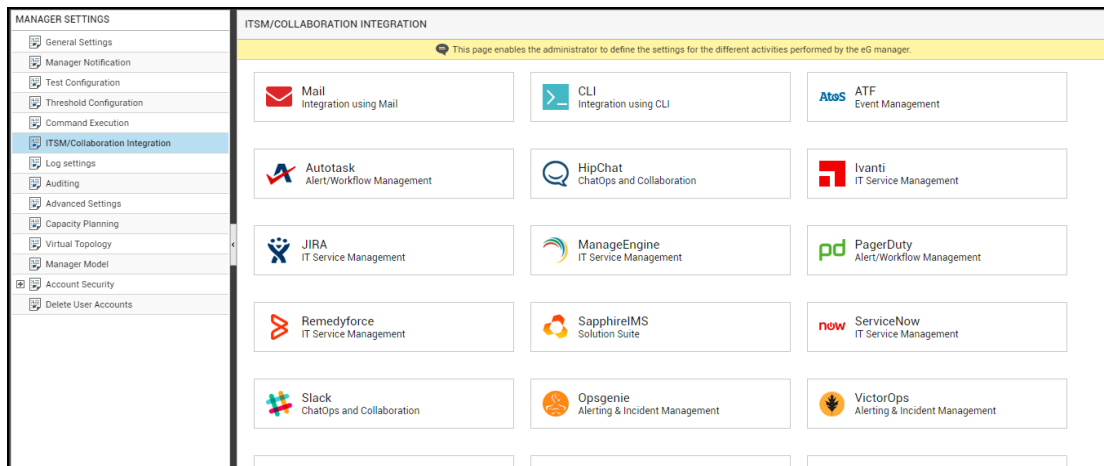
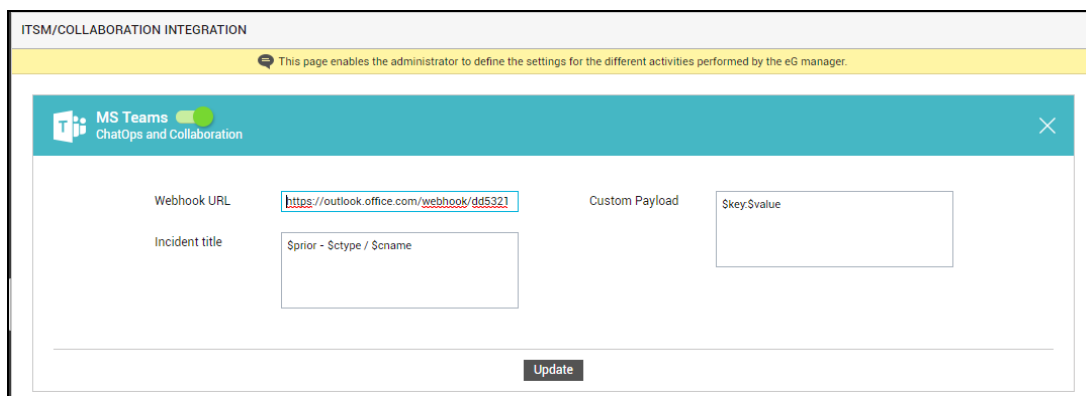

Figure 5.25: Viewing the ITSM/Collaboration tool options
Figure 5.26: Configuring integration with MS Teams
3. Figure 5.25 will then appear. From the **MANAGER SETTINGS** tree in the left panel of Figure 5.25, select the **ITSM/Collaboration Integration** node. The third-party ITSM/Collaboration
- Now, click on the **MS Teams** option in the right panel (see Figure 5.25). An **MS Teams** section will now appear in the right panel (see Figure 5.26).
- To enable integration with MS Teams, first slide the **MS Teams** slider in Figure 5.26 to the right.
- Then, specify the following in Figure 5.26:
7. Finally, click the **Update** button in Figure 5.26 to save the changes.